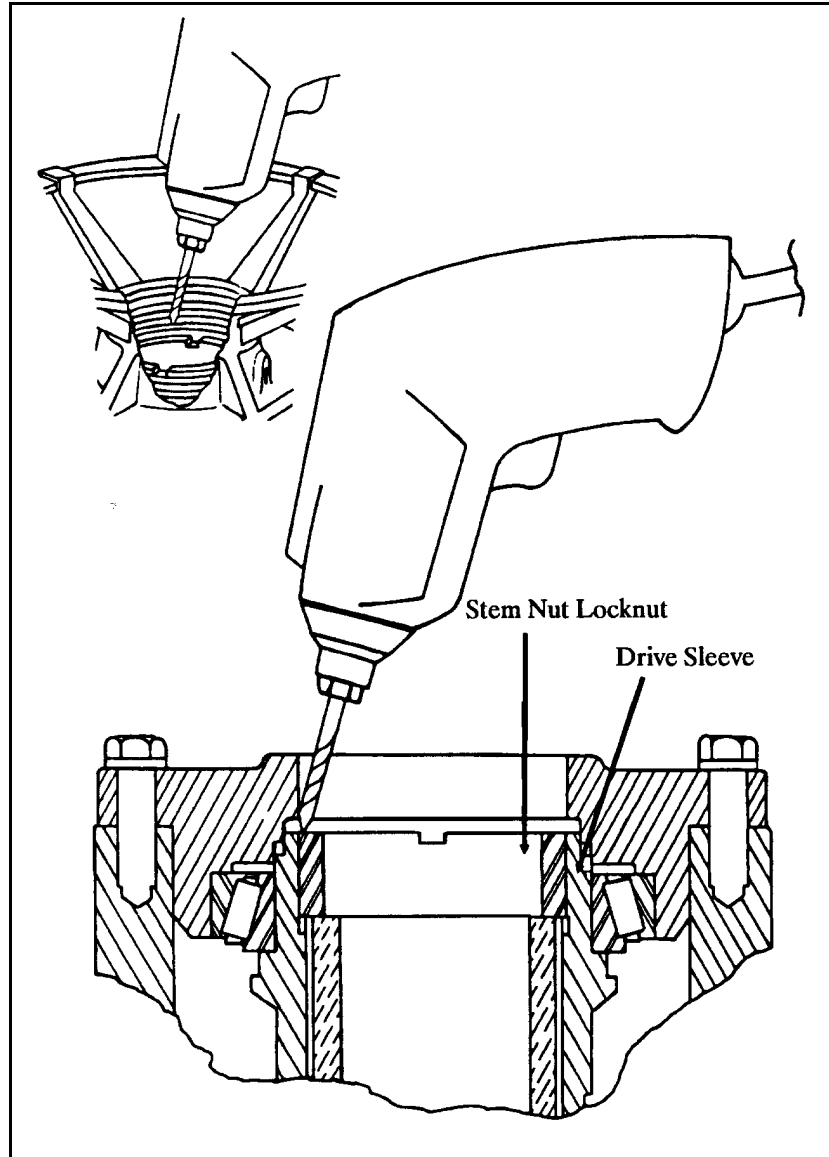

Figure 4-7 Removing Staked Threads
22. Place a rag on top of the stem to minimize foreign particle contamination of the stem threads. Drill out the staked threads at both places between the stem nut locknut and drive sleeve (Figure 4-7).